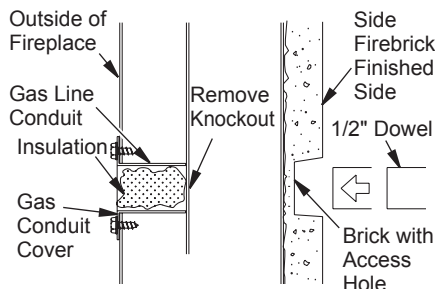

Figure 27 - Gas Line Access
1. Remove knockout indentation on refractory or firebrick wall located above refractory hearth floor. Knockout indentation must be firmly tapped with any solid object such as a 1/2" dowel until it is released. Remove fragmented portions of refractory (see Figure 27).